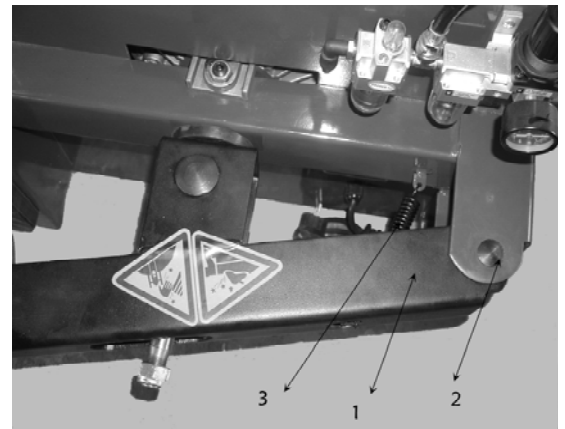

Fig 4-6
4. 2. 9 Insert the bead breaker arm (1) into the bead breaker bracket on the body and align the two holes and mount the bead breaker arm pin shaft (2) and also elastic retaining ring to positioning. Hang the spring (Fig 4-6-3) as shown in Fig 4-6.